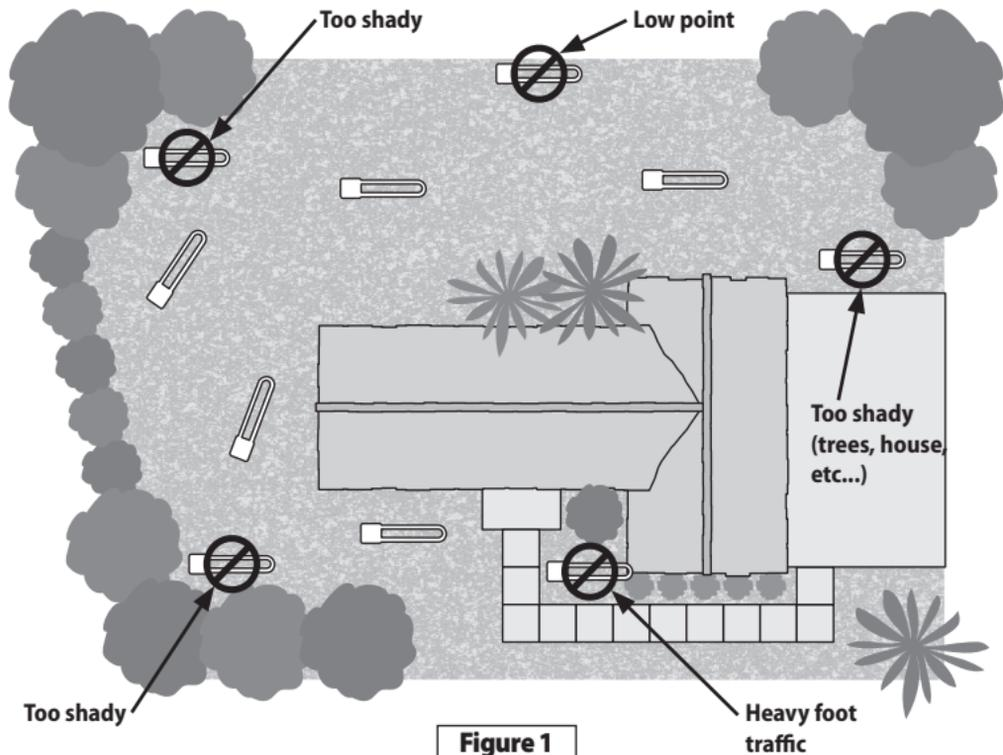

Figure 1
- 4.** Choose a full sun turf zone for the sensor installation (see Figure 1 & 2).